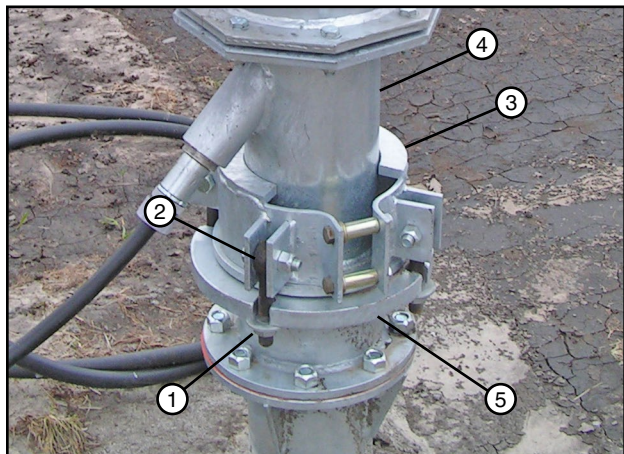

Figure 34-2 1. Hex Nut 2. Rod End 3. Anchor Clamp 4. Receiver Tube 5. Upper Anchor
15. Loosen the hex nut on each of the four rod ends on the anchor clamp. See figure 34-2.